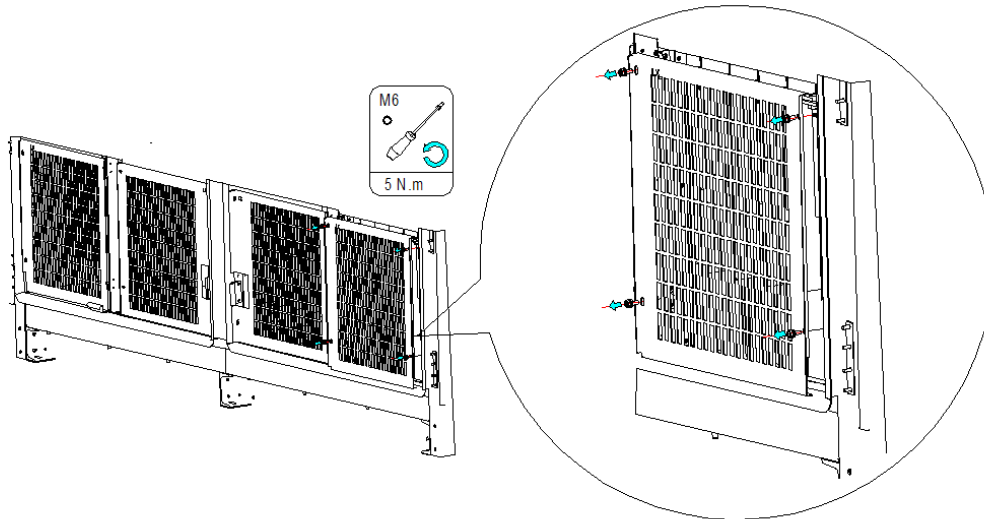

Figure 3-1 Protective baffle on the DC input power side
Step 1: Open the lower door panel of the front compartment of the inverter cabinet. Remove the protective baffle on the DC input power side of the front compartment, as shown in Figure 3-1.